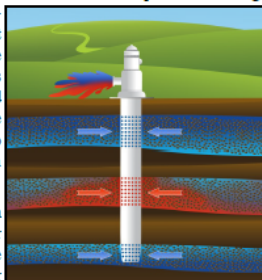

Figure 1: Water well screened across multiple aquifers. The water quality at the wellhead is a blend of the aquifers tapped.
There are currently over 500 groundwater production wells in the Central and West Coast Basins operated by 110 entities delivering water for municipal, industrial, and agricultural use to the nearly 4 million people in 43 cities overlying the basins. The groundwater is extracted from sand and gravel Pleistocene aquifers ranging in depth from 50 feet (ft) to over 2,000 ft. The aquifers are separated by clay and silt aquitards creating both unconfined and confined conditions. Most of the wells are screened across multiple aquifers to maximize groundwater production (Figure 1).
**Well Profiling** is one technology that shows promise as an alternative or beneficial supplement to wellhead treatment. This technology has been around for years but advances in equipment miniaturization are making it more available and reducing overall costs. As Figure 1 shows, wells can tap multiple aquifers that may have different water qualities. The quality of the water produced at the wellhead will be a blend of the various water qualities tapped by the well.